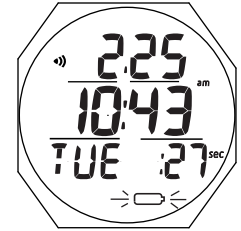

Fig. 2 - WATCH MAIN (low battery alarm)
- If in DC mode, the battery icon flashes for 5 seconds and operation reverts to Watch Main Time with the icon flashing (Fig. 2) until the Battery is changed or voltage cannot sustain operation (< 2.35 volts), then the graphics CHG bAt flash until the Battery is changed or voltage drops to the level at which operation cannot be maintained.